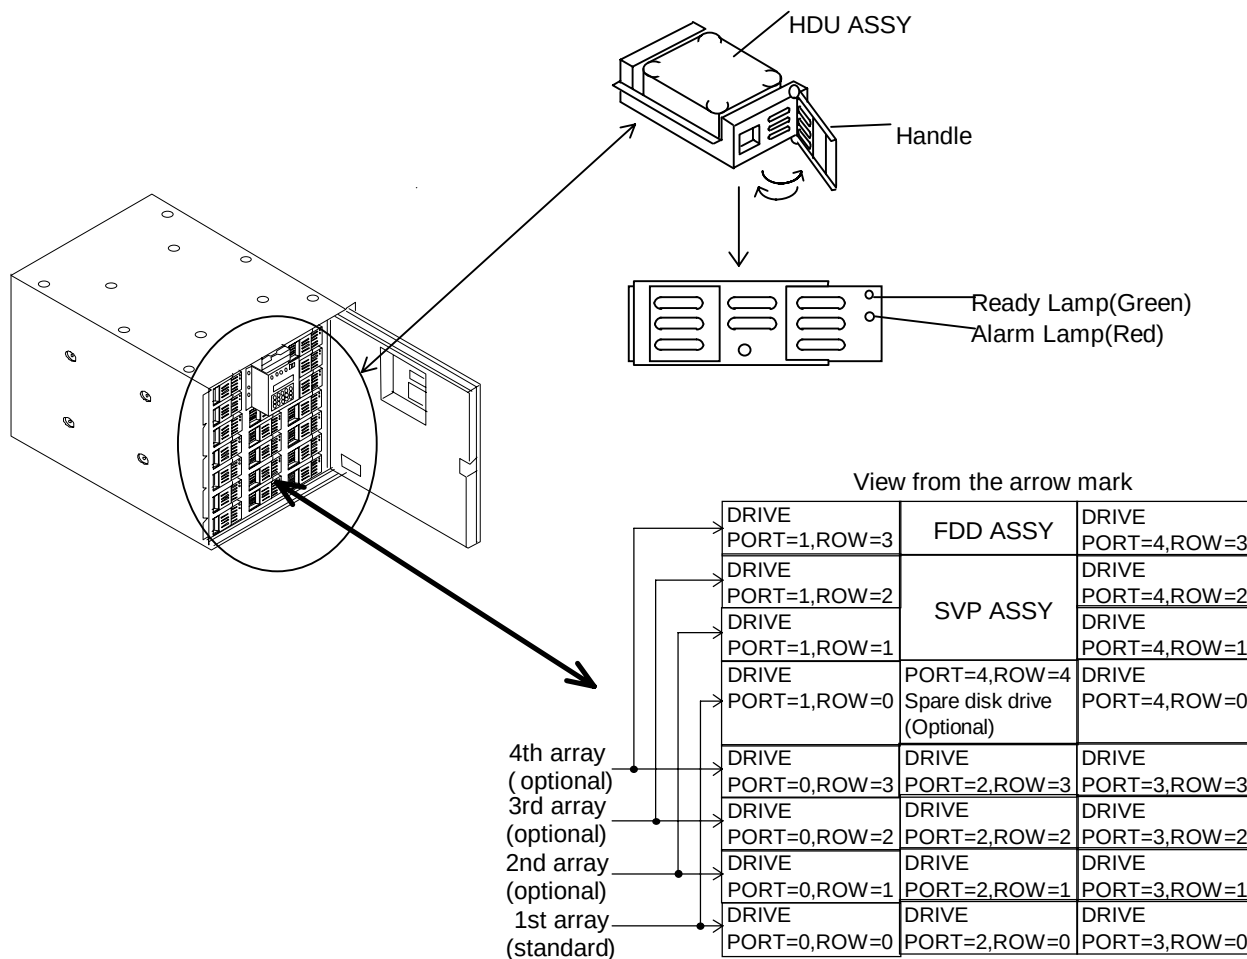

Figure 3.2.4 Installing HDU ASSY
(4) Installing HDU ASSY (See Figure 3.2.4.)
- ① Open the handle in the direction of an arrow (···→) completely and insert the HDU ASSY into the right place.
- ② Close the handle in the direction of an arrow (→→).